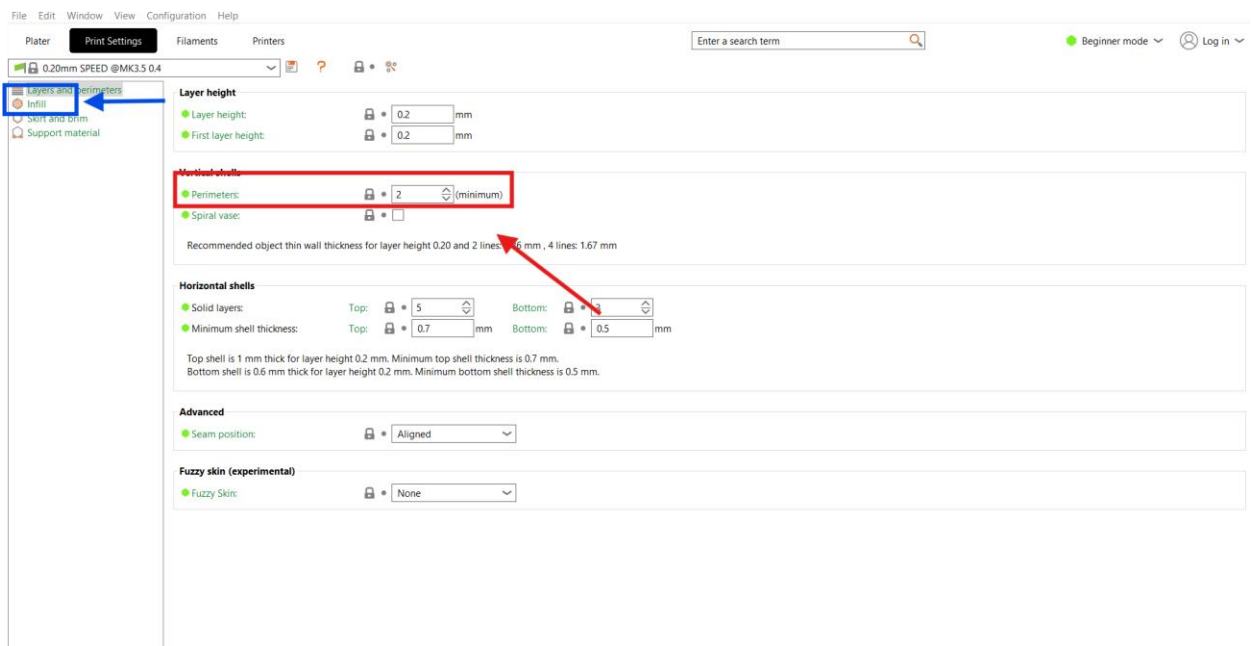

Figure 2. Adjusted Perimeter Settings
- 4.) Go to the “Print Settings” tab in the top left corner of PrusaSlicer and change the number of perimeters to 4 (see red arrow in Figure 2). Then double-click on the “Infill” subtab (see blue arrow in Figure 2).